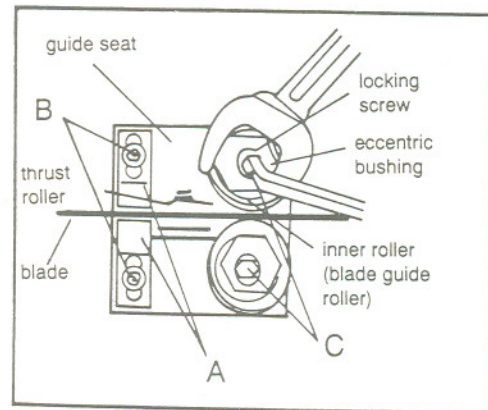

Fig. 10
2. Loosen blade guides (A - Fig. 10) by loosening screws (B). Slide blade guides away from blade.
3. Loosen locking screws (C) by using a hex wrench.
5. Tighten locking screws (C).
6. Slide blade guides back into contact with blade and tighten screws (B).